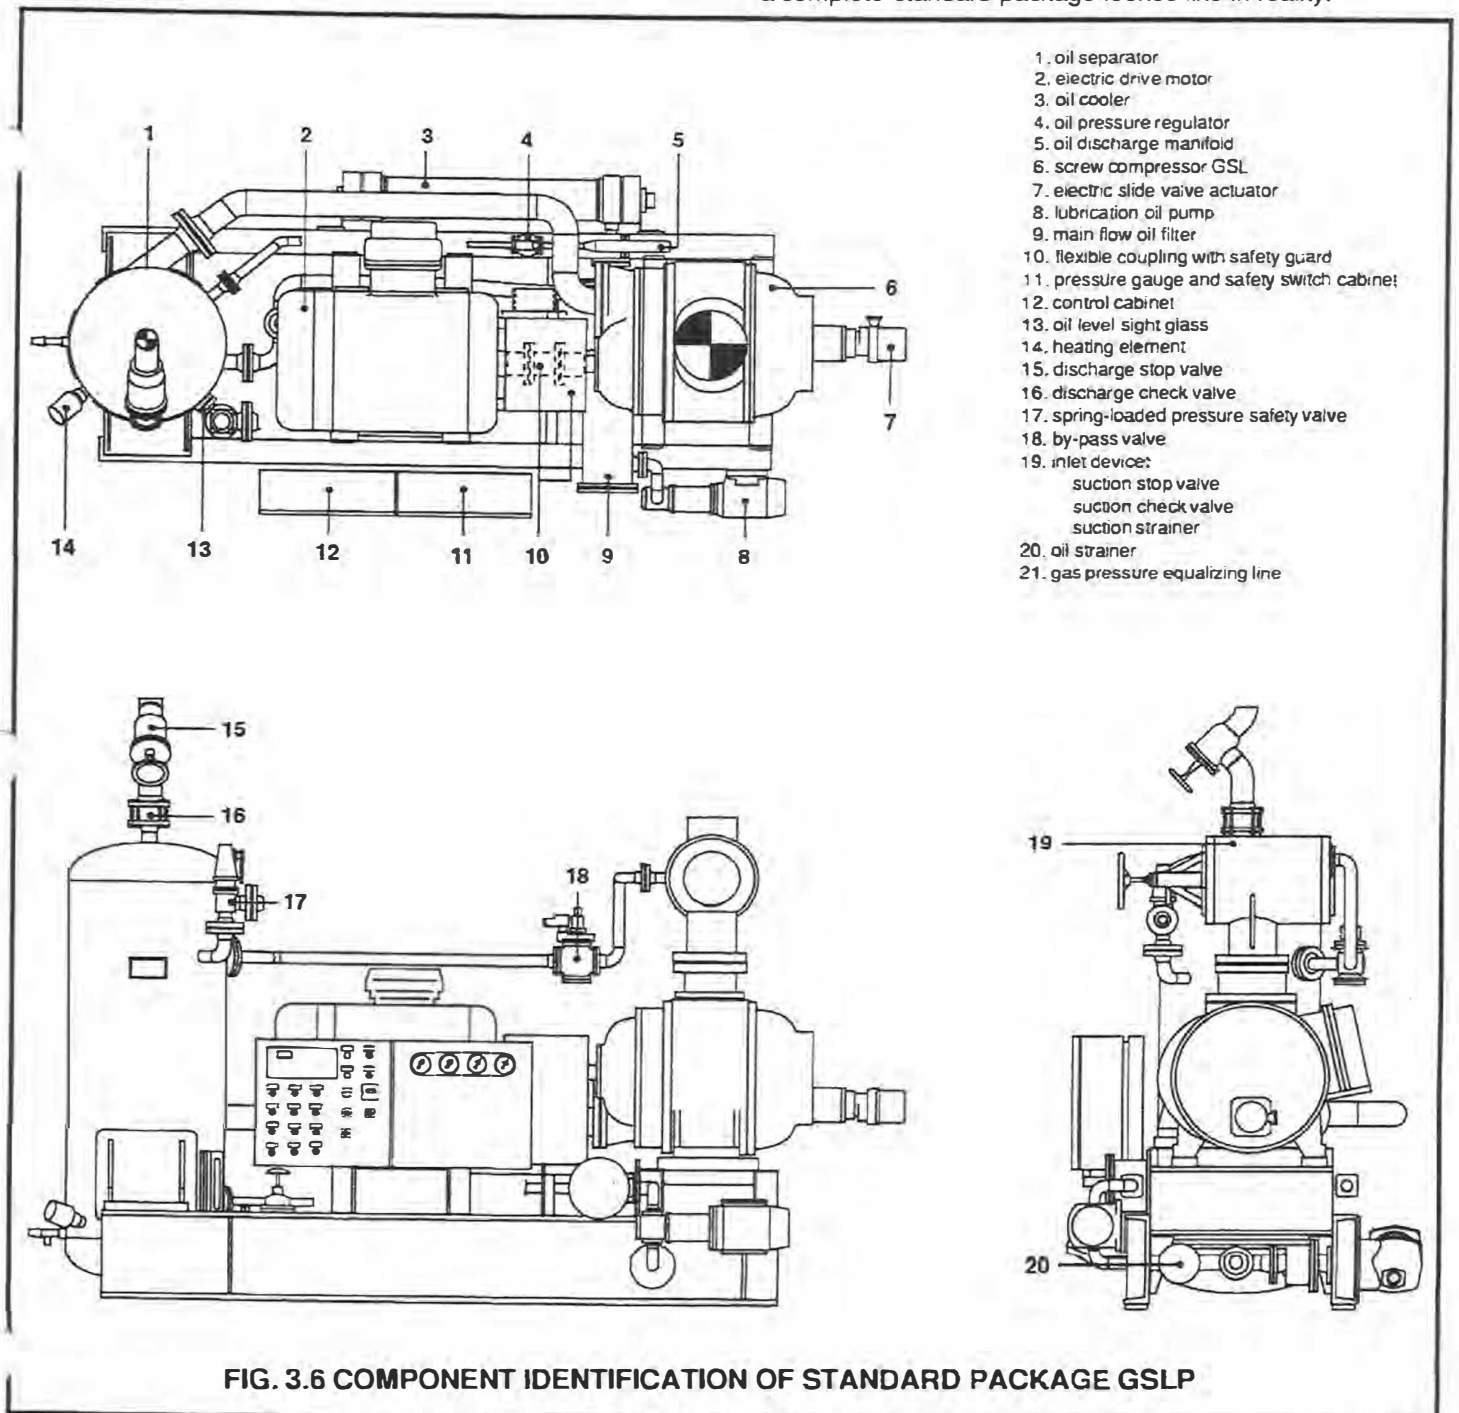

FIG. 3.6 COMPONENT IDENTIFICATION OF STANDARD PACKAGE GSLP
- All components and the interconnecting piping are assembled on a solid steel base frame (6). Figure 3.6 shows how a complete standard package looks like in reality.
To operate the capacity control regulating shaft of the compressor (see fig. 2.6) manually (by push-buttons) or automatically (by the control system of the installation), a simple and reliable electric adjusting device, called the "Electrical slide Valve Actuator" (EVA) is used. This is a standard accessory, factory-mounted on and in line with the hydraulic cylinder of the compressor as shown in fig. 3.6.